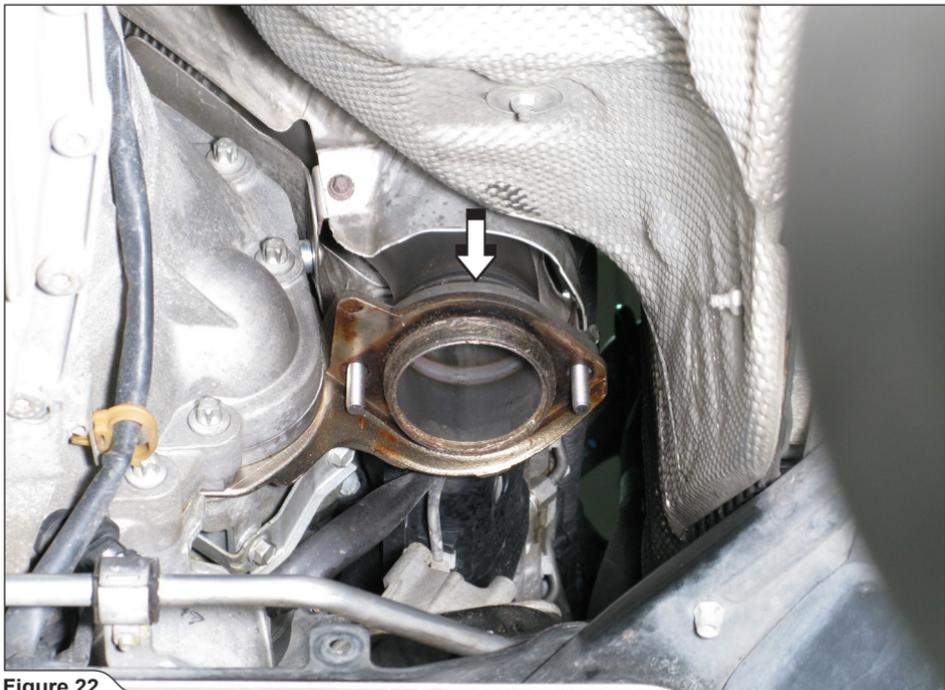

Figure 22
2. **For optional Down Pipes only:** attach the down pipe onto link pipes joint on both side of the engine (Figure 22).